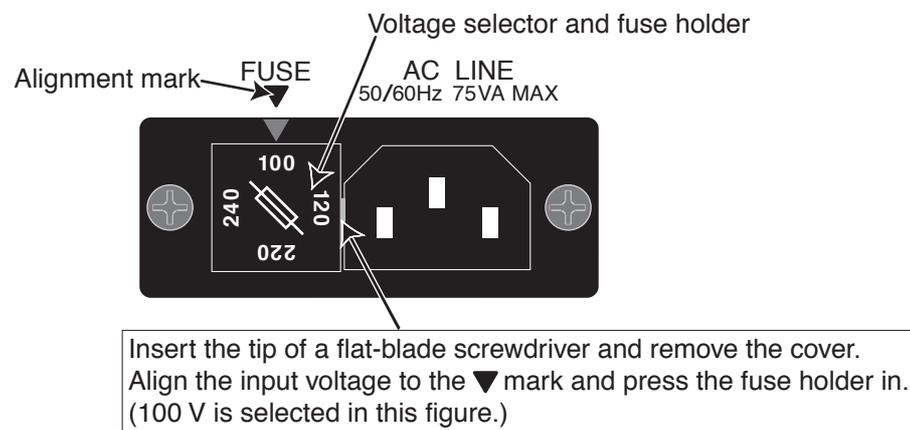

Fig. 1-3 Removing the Fuse Holder
2. Remove the fuse holder cover. See Fig. 1-3.